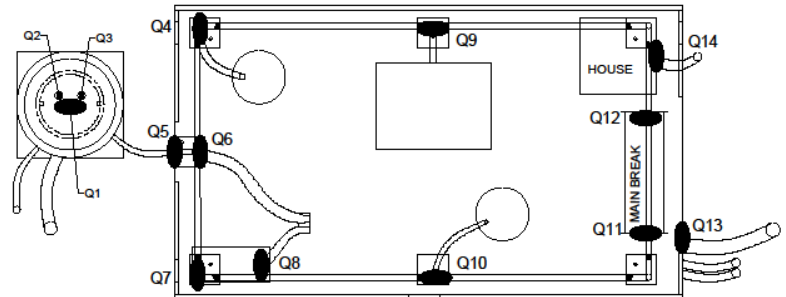

Figure 2. Quick Disconnects
- 5) Connect each quick disconnect to appropriate connection feeding the fire-flow, house overflow and subsurface lines through their holes in the bottom of the encasing (Figure 2)